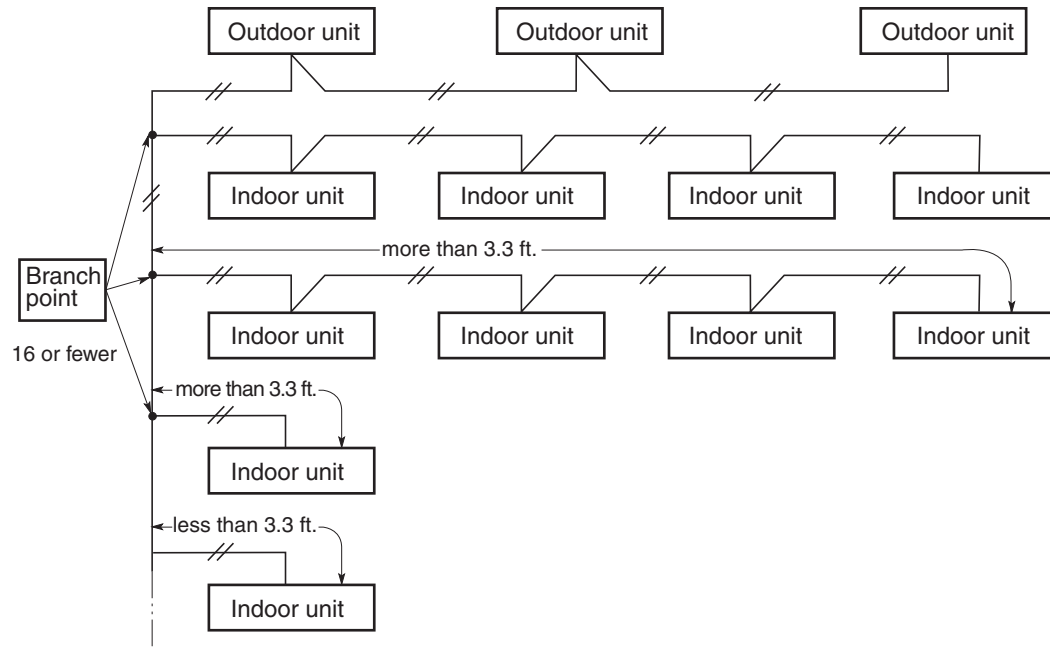

Fig. 4-3
(4) If branching the inter-unit control wiring, the number of branch points should be 16 or fewer. (Branches less than 3.3 ft. are not included in the total branch number.) (Fig. 4-3)